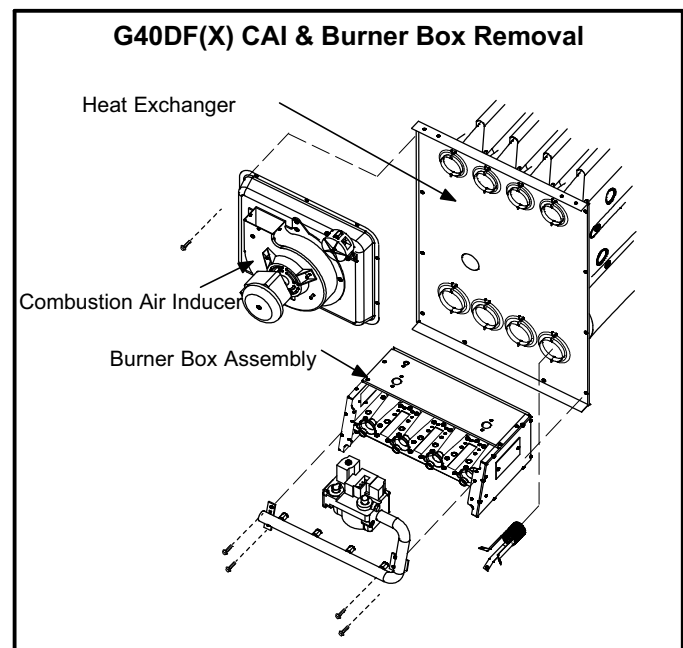

FIGURE 27
- 18 -Remove the four screws that secure the combustion air inducer. Carefully remove the combustion air inducer to avoid damaging the blower gasket. If the gasket is damaged, it must be replaced to prevent leakage. See figure 27.